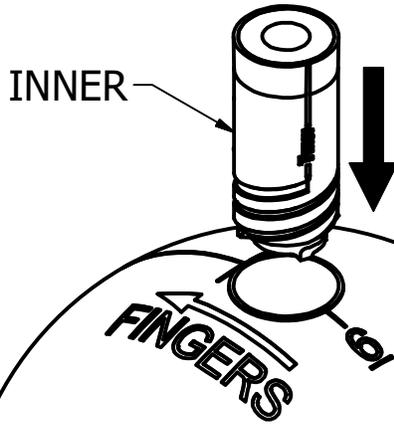

FIGURE 5a
- #5) INSERT THE "TWIST" INNER WITH INNER ALIGNMENT GROOVE BETWEEN 6 & 7 O'CLOCK (FIGURE 5a), SLIDE DOWN UNTIL THREADS MEET & ROTATE CLOCKWISE BY HAND UNTIL THE "TWIST" INNER HITS THE BOTTOM (FIGURE 5b), INSERT THE "TWIST" INSTALLATION TOOL & ROTATE CLOCKWISE WITH MINIMUM FORCE UNTIL THE INNER LOCKS INTO PLACE. BOTH INNER & OUTER ALIGNMENT GROOVES SHOULD BE AT 6 O'CLOCK (FIGURE 5c).